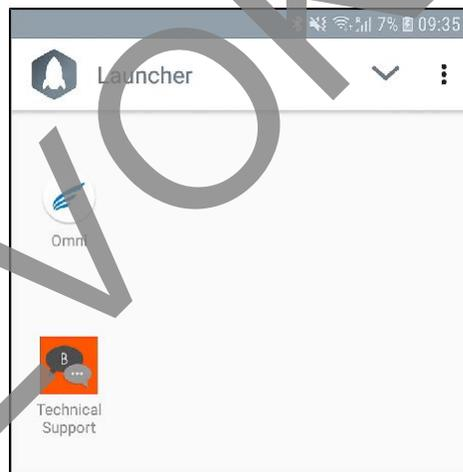

Figure 5. Omni Application
4. In the Launcher application, tap the **Omni** icon to start the Omni Mobile Application (see Figure 5). The Cepheid login screen appears.